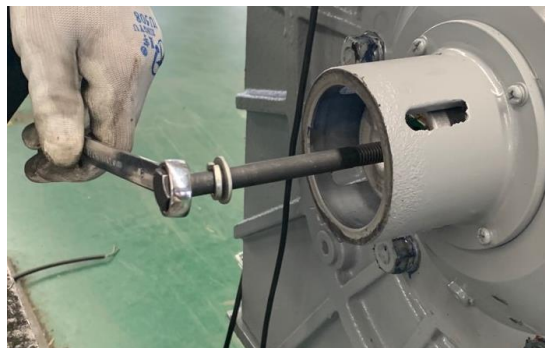

Figure 22
8. Turn the M10 bolt against the M5x50 bolt to push the encoder from the shaft. The encoder will “pop” free and will be loose to the touch yet still retained by the M5 bolt. See Figure 22.